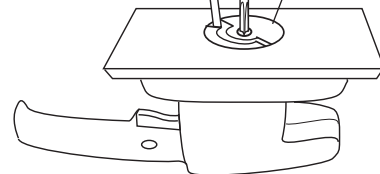

Fig.2.
process (3) as illustrated in Fig.2.
- (3) Remove base complete by striking the head of
counter sunk head bolt M5x16 firmly as illustrated in Fig.2.